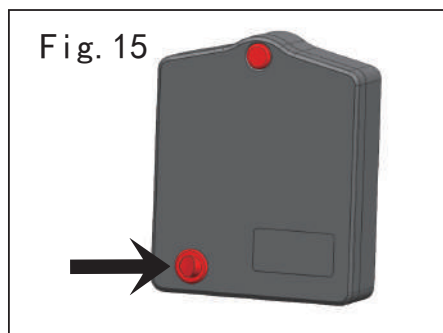

Fig. 15
5.3.6 When the personal electric vehicle is not in use, be sure to turn off the button designated with an arrow in Fig. 15 below so that the battery does not run down.